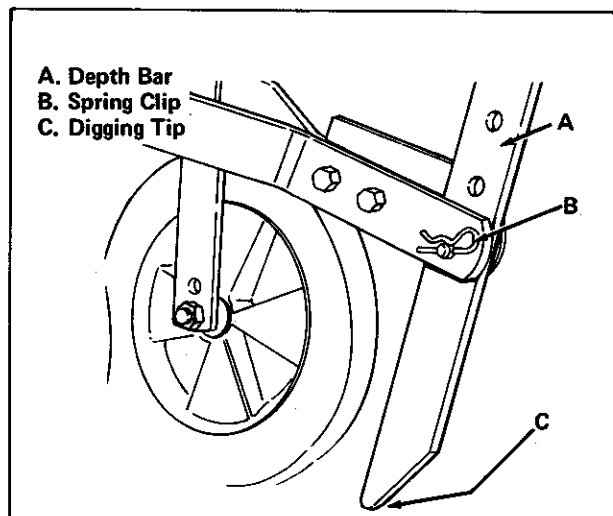

Figure 27. Depth Bar
2. Install depth bar (item A, figure 27) to rear of frame with pin and cotter pin (item B). Digging tip of bar should be installed as shown (item C).